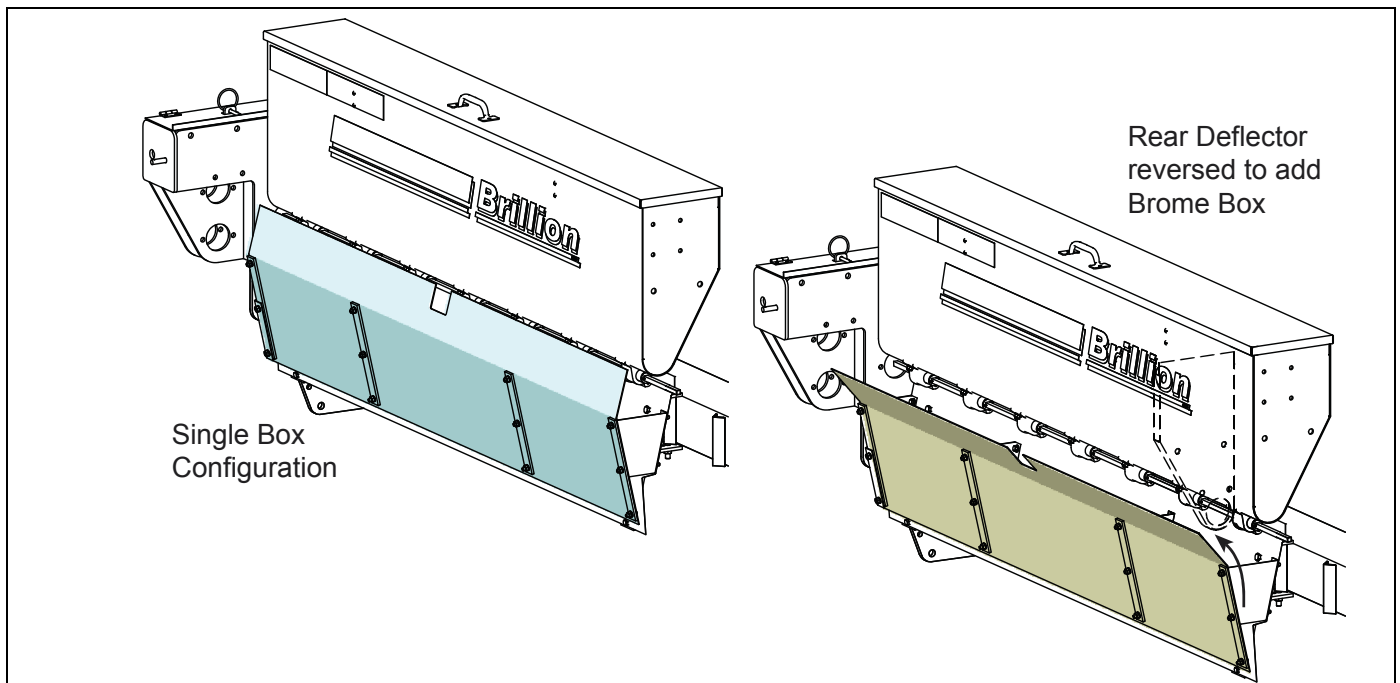

Figure 2-30: Deflector Shield
1. Remove bolts holding rear panel to deflector shield assembly and reverse rear panels so that upper lips flare rearward instead of forward. See Figure 2-30.